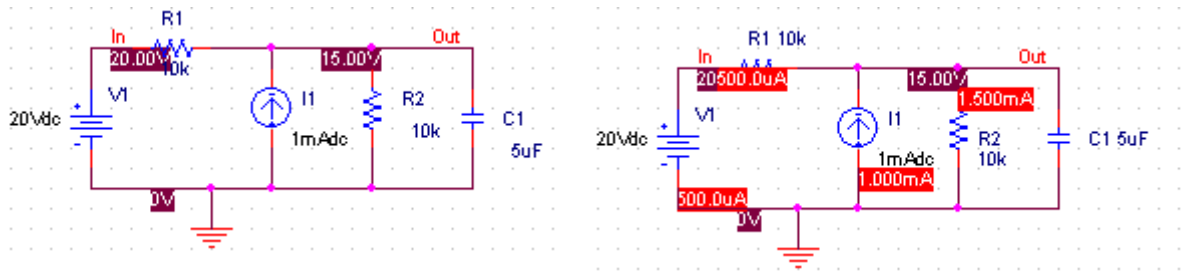

Figure 6: Results of the Bias simulation displayed on the schematic.
7. To see the result of the DC bias point simulation, you can open the Simulation Output file or go back to the schematic and click on the V icon (Enable Bias Voltage Display) and I icon (current display) to show the voltage and currents (see Figure 6).